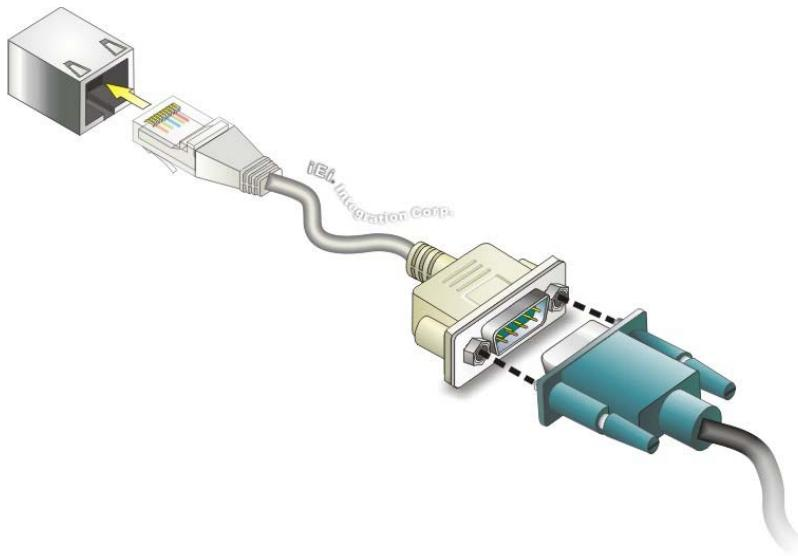

Figure 3-11: Serial Device Connector
Step 3: Insert the serial connector. Insert the D-sub 9 connector of a serial device into the D-sub 9 connector on the cable. See **Figure 3-11**.